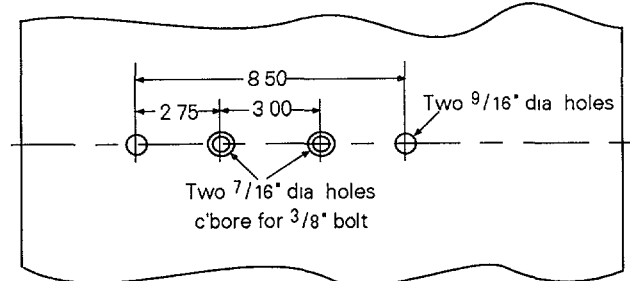

Figure 2. Front of the mounting panel, showing the locations of the mounting holes to be drilled.
1. Drill two $\frac{9}{16}$ "-diameter holes 8.50" on center in the mounting panel, as shown in Figure 2.